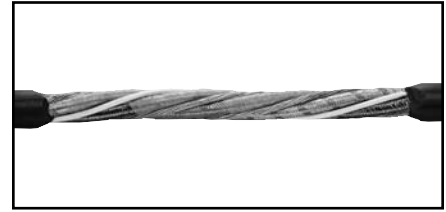

Figure 10
1. Stagger the conductors so that the finished splice will have the smallest possible diameter, and so that all reconnected conductors will be of equal length. (Figure 10)